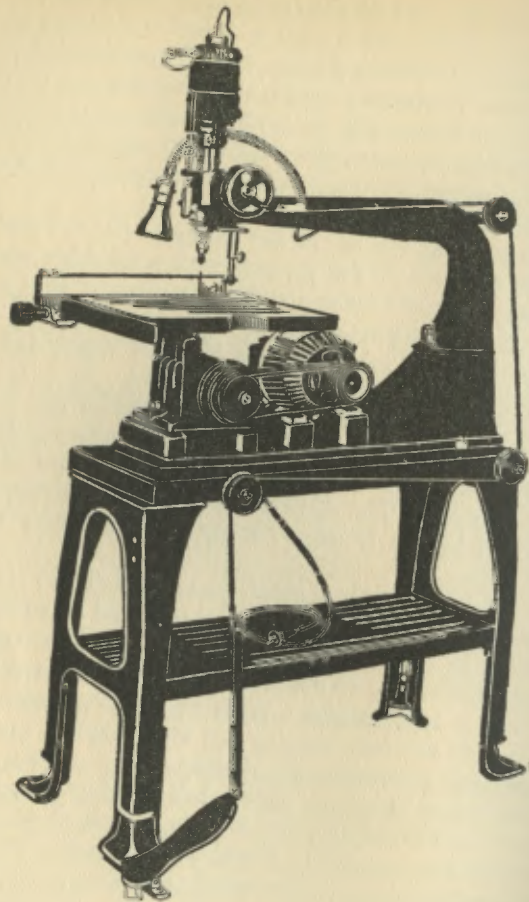

FIG. 12. THE ROUTER ATTACHMENT FOR THE JIG SAW
It consists of three chief parts, which are (1) a motor, (2) a spindle and (3) a chuck, and all of which is shown in Fig. 12. The subsidiary parts are (a) an adjustment screw, (b) a feed wheel, (c) three pulleys and (d) a foot treadle. With this router attachment you can do not only routing but also shaping, carving, dovetailing, grooving and grinding.